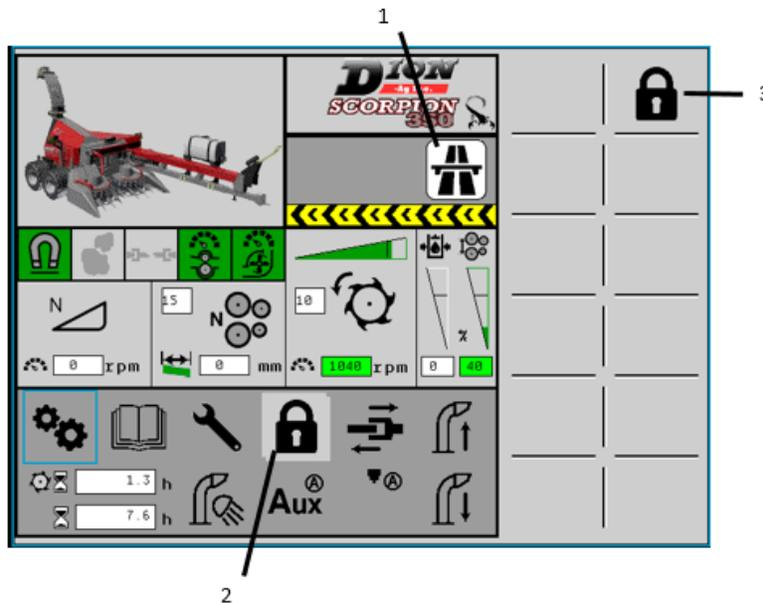

Figure 93 TRANSPORT mode layout
7. To exit transport mode (item 1, FIGURE 93), press and hold the LOCK mode button (item 2) or softkey (item 3). It will return to LOCK mode and allow access to FIELD mode.